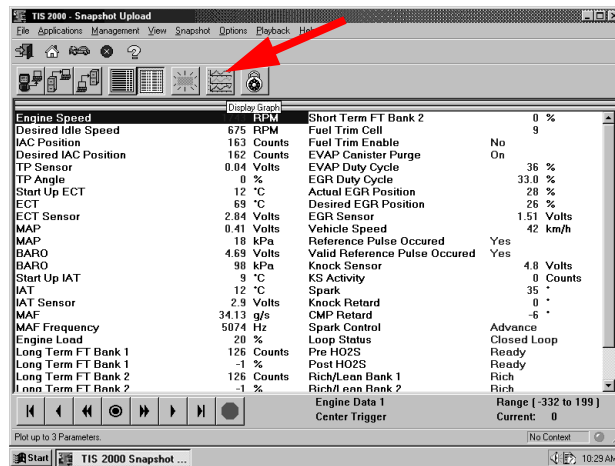

FIGURE 8-45. Display Graph Icon on Snapshot Upload Screen
2. If more than one DTC is set for a frame, scroll bars appear at the right side of the DTC window. To view other DTCs (Figure 8-45), click-and-drag the scroll box or use the scroll arrows.